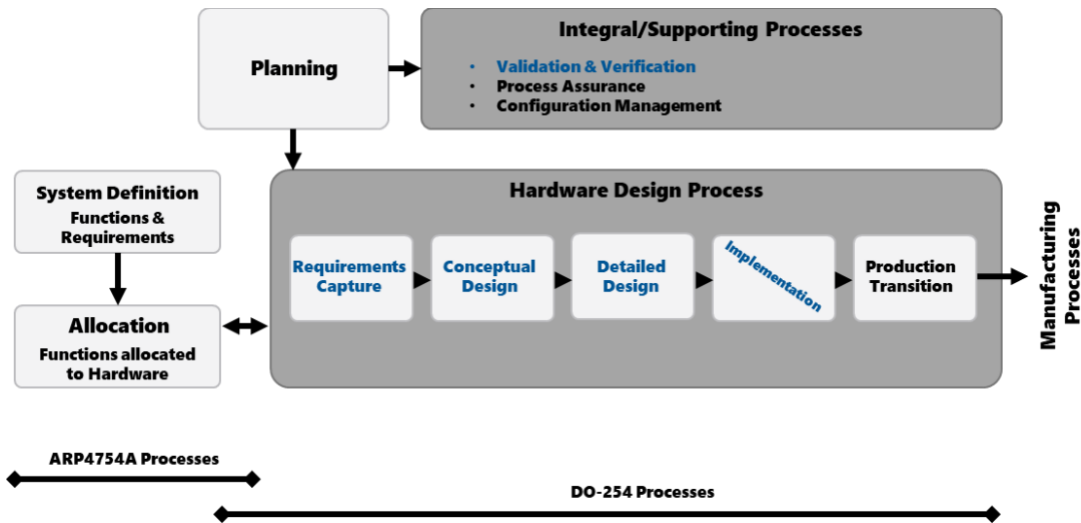

Figure 1 DO-254 compliance lifecycle and associated processes.
Figure 1 shows the DO-254 life cycle and lists the processes that must be performed and documented as a design moves from phase to phase in the life cycle. The following processes, which appear in blue in Figure 1, are discussed in this paper:
- **Design Processes** – This corresponds to the **Conceptual design, detailed design and implementation in Figure 1**. During the Conceptual Design Phase, the high-level strategy for implementing the functionality expressed in the requirements is conceptualized and documented. During the Detailed Design Phase, the conceptual design is elaborated and refined into the design (such as HDL code) that will be implemented in the hardware device.